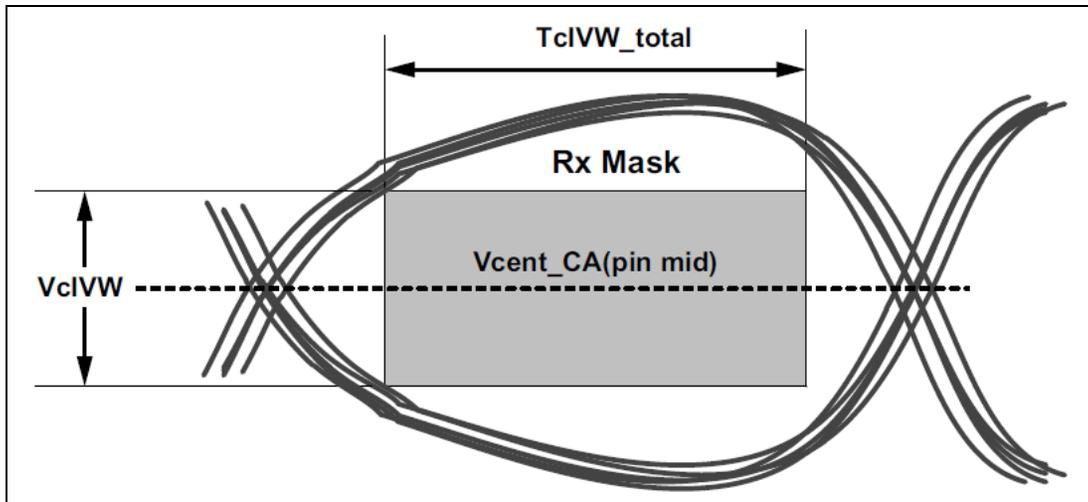

Figure 166 - CA Receiver (Rx) Mask
The command and address (CA) including CS input receiver compliance mask for voltage and timing is shown in Figure 166. All CA, CS signals apply the same compliance mask and operate in single data rate mode.
The CA input receiver mask for voltage and timing is shown in Figure 166 is applied across all CA pins. The receiver mask (Rx Mask) defines the area that the input signal must not encroach in order for the DRAM input receiver to be expected to be able to successfully capture a valid input signal; it is not the valid data-eye.